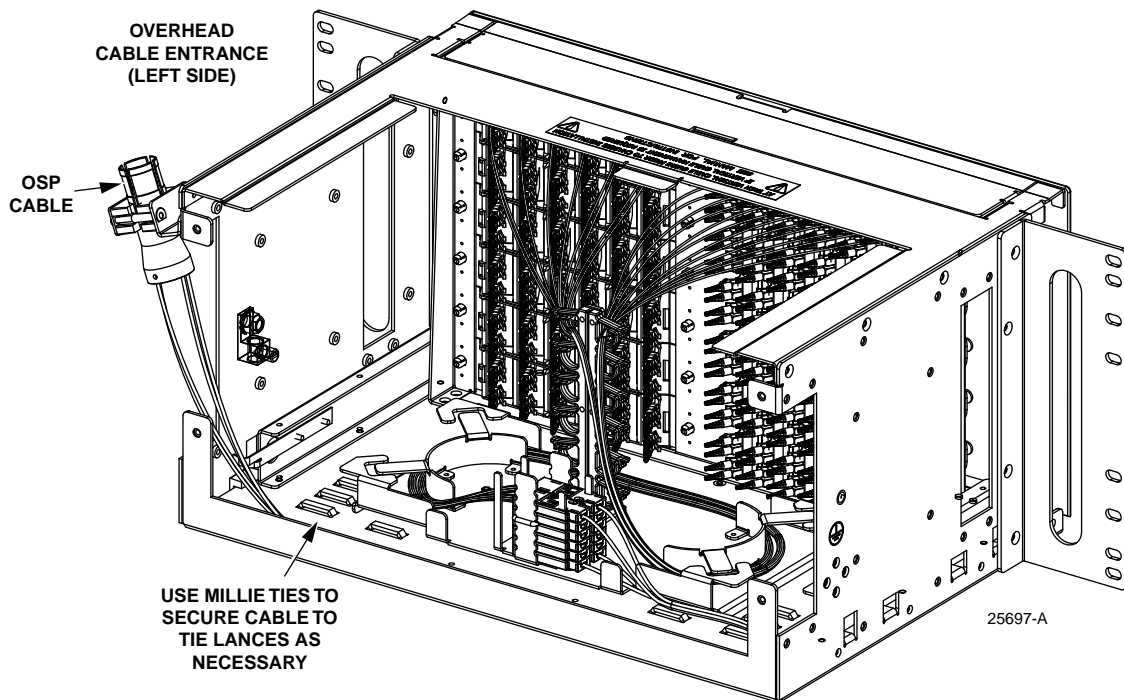
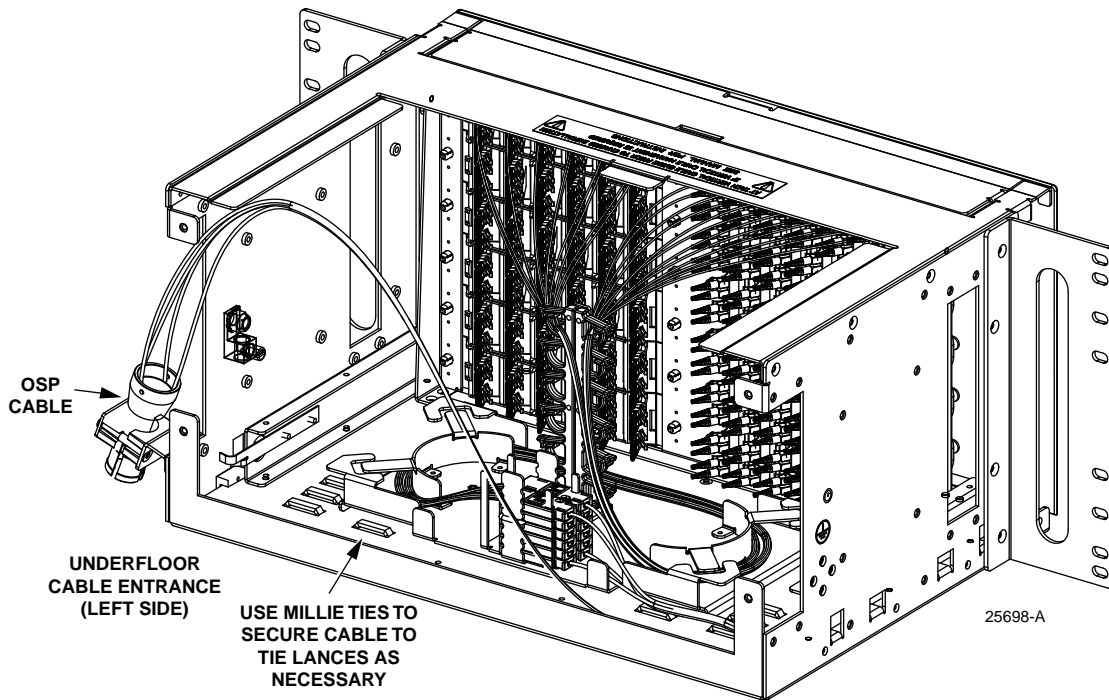
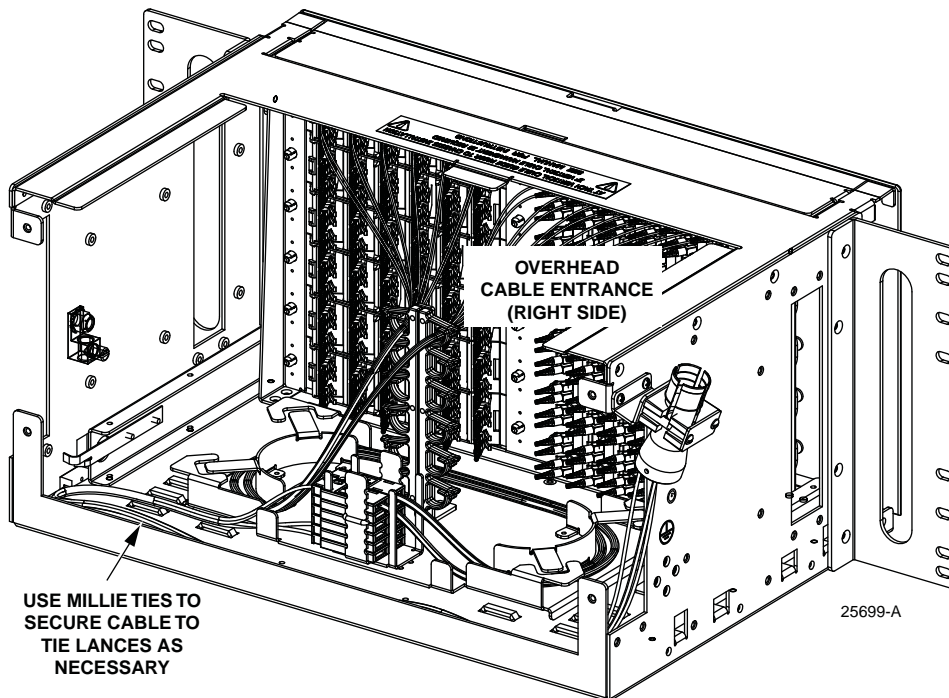
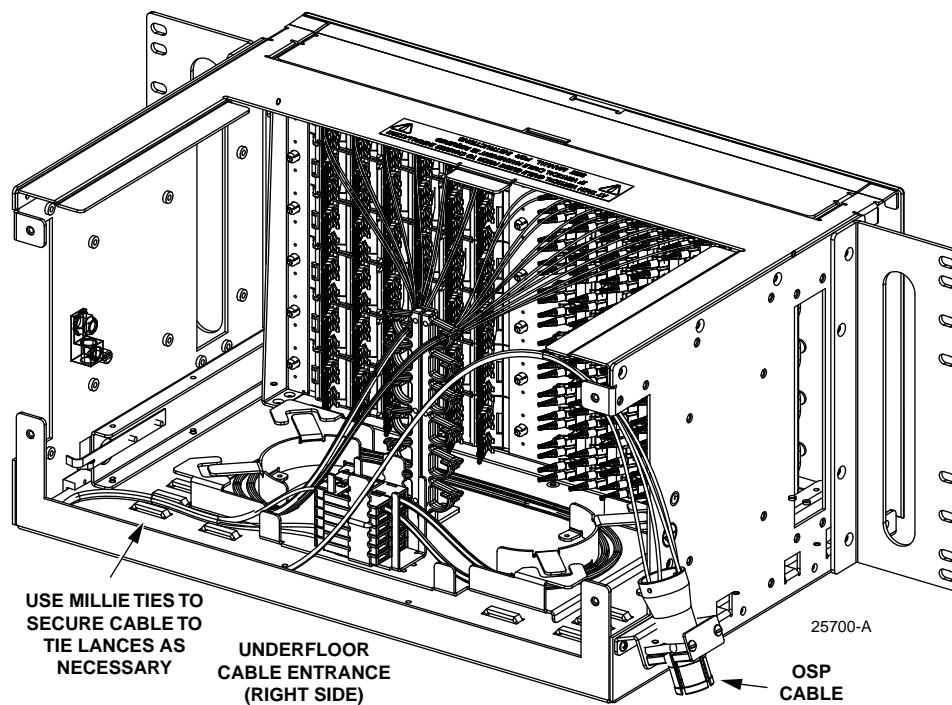

Figure 21. Overhead, Left Side Terminated Cable Entrance (5RU Panel Rear View)
Figure 22. Underfloor, Left Side Terminated Cable Entrance (5RU Panel Rear View)
Figure 23. Overhead, Right Side Terminated Cable Entrance (5RU Panel Rear View)
Figure 24. Underfloor, Right Side Terminated Cable Entrance (5RU Panel Rear View)
- Determine the cable entry location. Cables may enter the panel from either top or bottom and may be clamped to either the left or right side, top or bottom, as shown in Figure 21, Figure 22, Figure 23, and Figure 24. Use the integral fanning tree to arrange the fibers so that they are across from the adapter where they are being terminated.